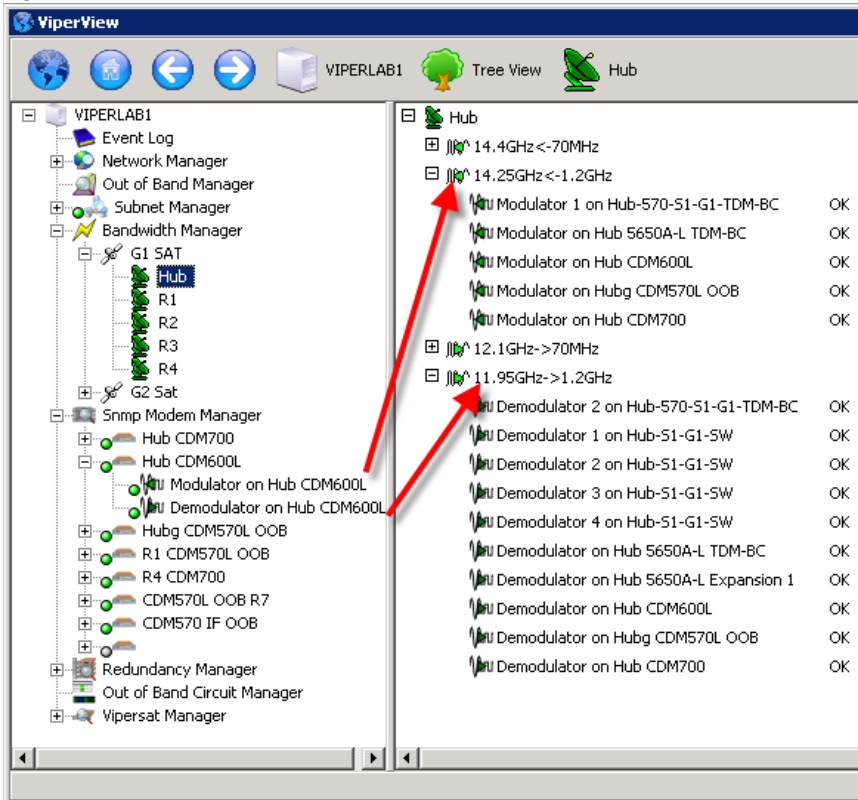

Figure 6-8 Configuring the RF Chain
1. Expand the modem icon to show the Modulator and Demodulator. Select the appropriate antenna and expand the up and down converters as shown in figure 6-8 below: